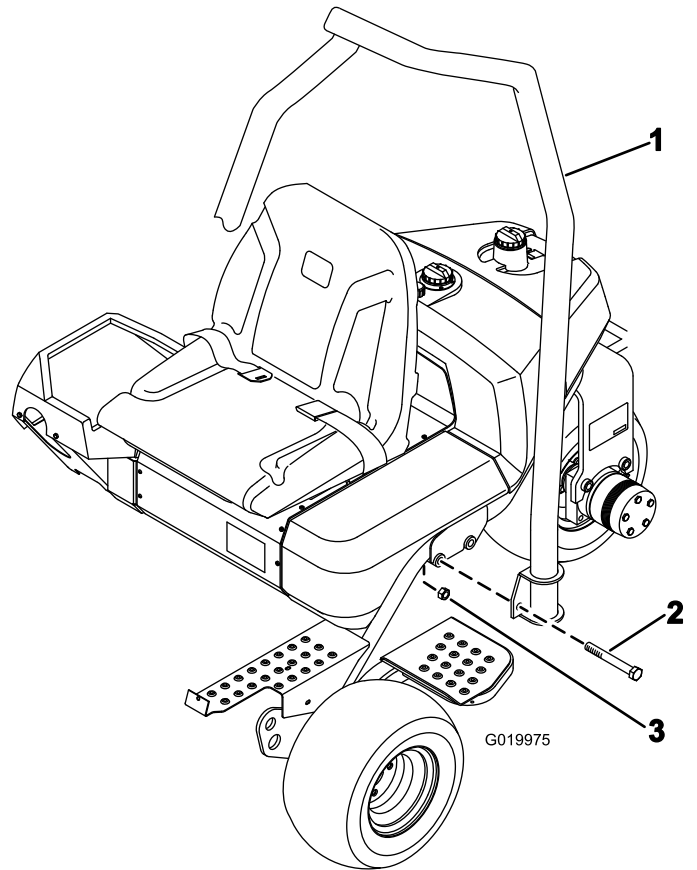

Figure 7
1. Position the roll bar so the top of the tube is curved toward the front of the machine (Figure 7).
2. Lower the roll bar onto the frame, aligning it with the mounting holes (Figure 7).
3. Secure each side of the roll bar to the frame with 2 bolts (5/8 x 4-1/2 inches) and locknuts as shown in Figure 7.